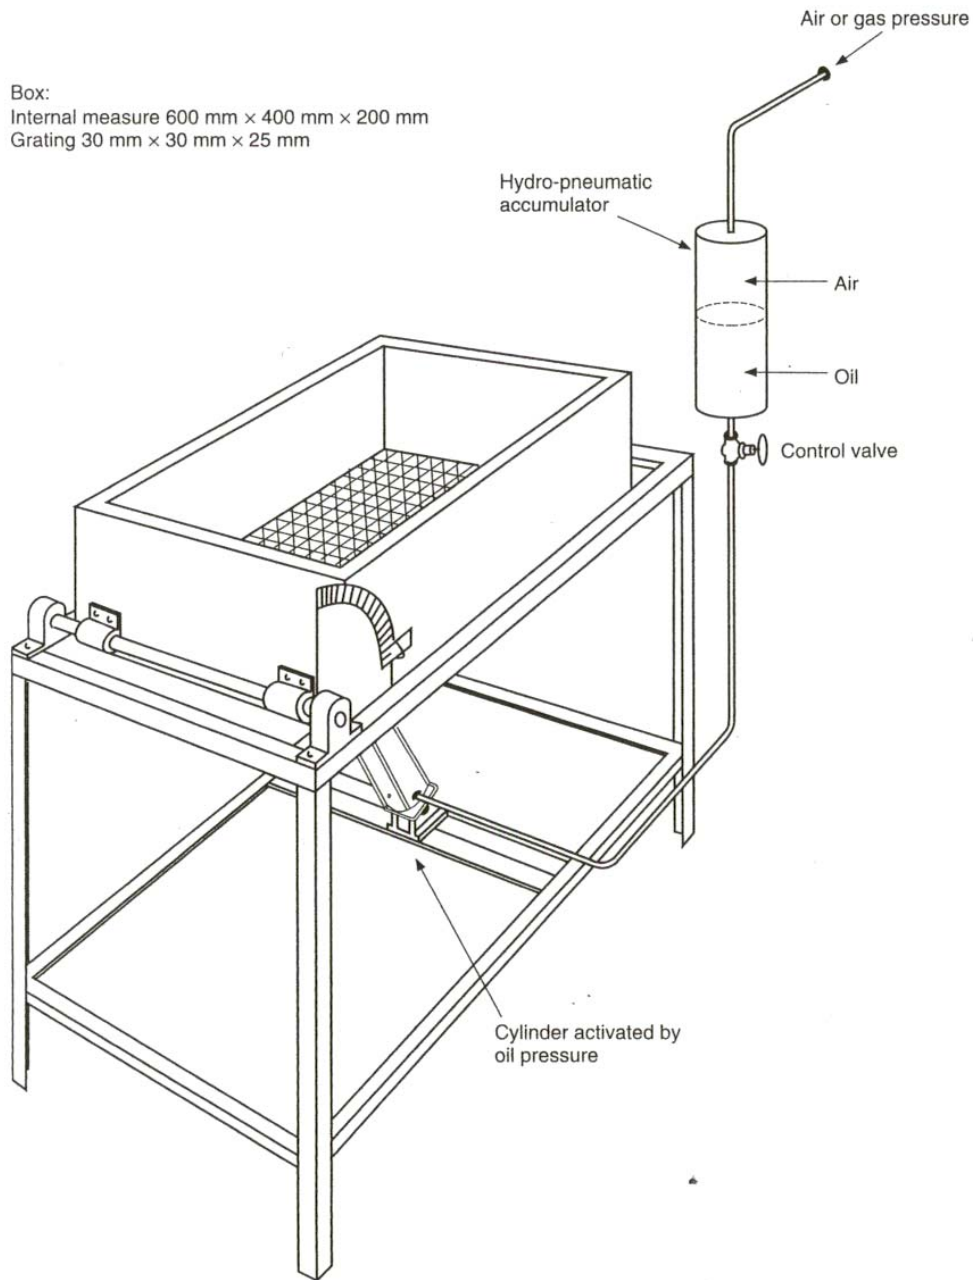

Figure 2.1.4 – Basic sketch of tilting box
2.1.4 *Apparatus (see figure 2.1.4)*